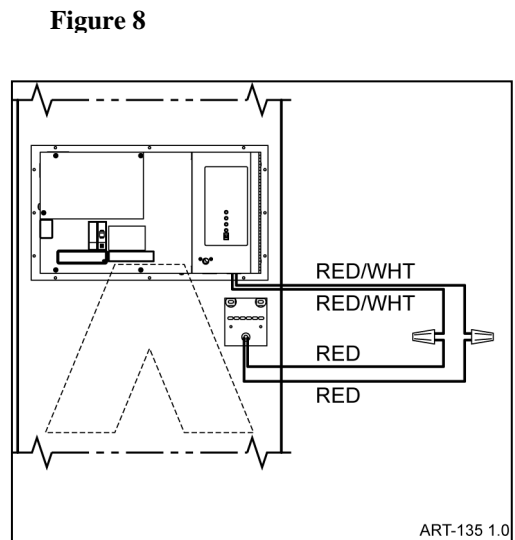

Figure 9
**Downflow or Horizontal only** – HI-LIMIT PROBE EM5714 (shipped loose in control box cabinet) – Install probe as close as possible below HeatChoice on the right side, see drawing EA111. Within the upper right portion of the main control box locate one of the two wire nuts that join a red wire from the right hi-limit probe to a red/white wire from the control board wire harness, (see figure 9). Remove wire nuts, route, and connect in series to this additional hi-limit probe's red wires.
#### Downflow – Horizontal Sensor Probe (figure 9)